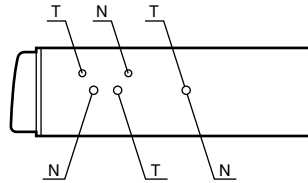

Figure 5
6. The main unit has mounting screw holes for NISSAN (N marks) and TOYOTA (T marks) vehicles. (Figure 5)